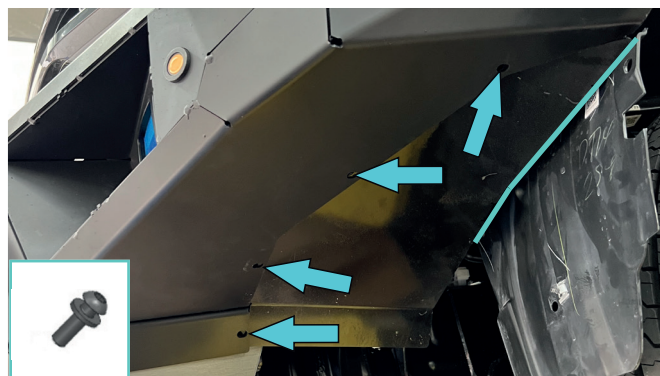

Fig.62
61. Install flaps (item 28, 29) using screws M6x20, washers 6 (item A, H) onto the bumper body on each side. **\*Tighten hardware after that.** Push the flap to plastic fender and mark future cutting line. Cut plastic fender following marked cutting line using jig-saw or shears (fig. 62).